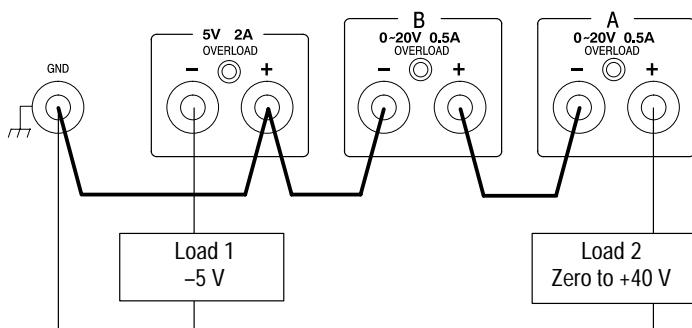

Figure 6: Connecting the Two 0-20 V Supplies in Series to Product 0 to +40 V
Figure 6 shows the power supply connected in series to produce a variable output of 0 + 40 V, ground referenced, and -5 V, ground referenced. The VOLTAGE and CURRENT controls are in series. The V meter reads only one supply at a time and the mA meter reads total current in either position. To read the total voltage the readings from the A position and B position must be added. To set up this configuration, proceed as follows:
1. Turn **POWER** to **OFF**, and connect the outputs as shown in Figure 6.